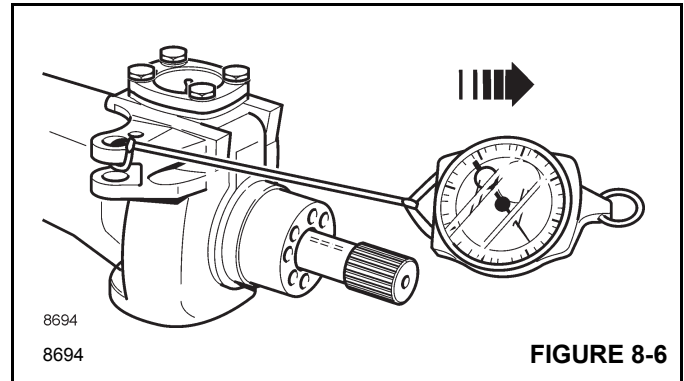

FIGURE 8-6
8. Attach a spring balance (Figure 8-6) to track rod swivel and turn the swivel. Tighten the top trunnion bolts **21** to eliminate end float but without bearing pre-load, that is, no increase in spring balance reading.